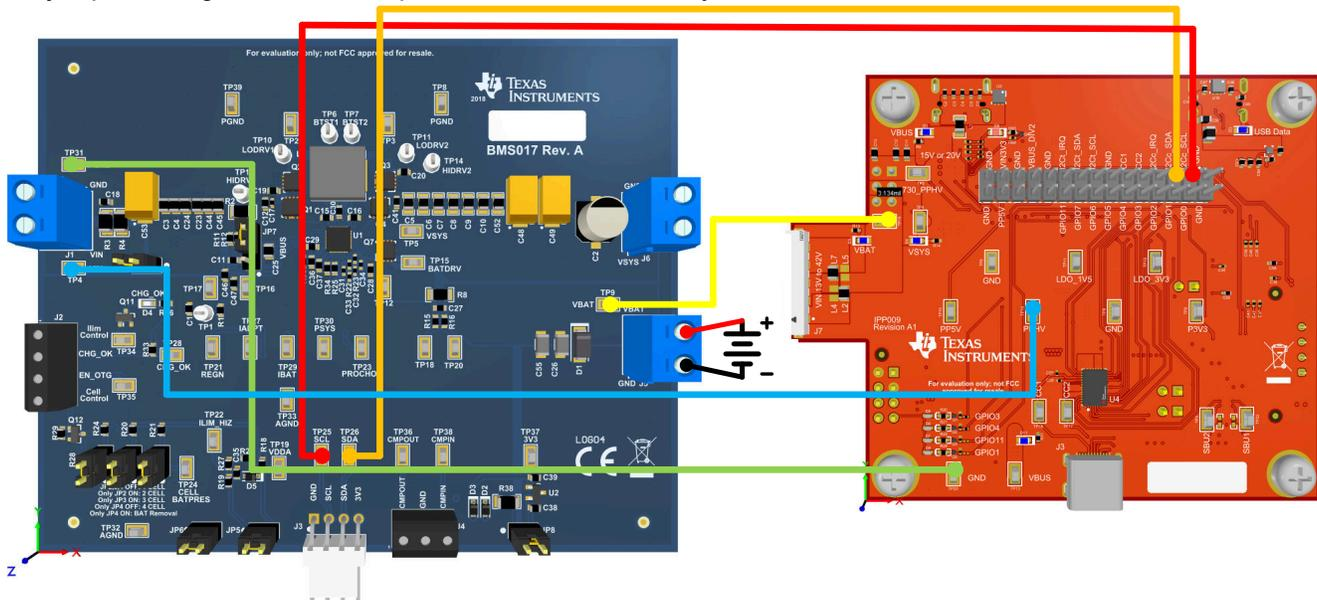

Figure 4-5. TPS25751EVM and BQ25713EVM Hardware Setup
2. Use the test hook clips/jumper wires to connect the two EVMs as shown below. See Figure 4-5 for details.